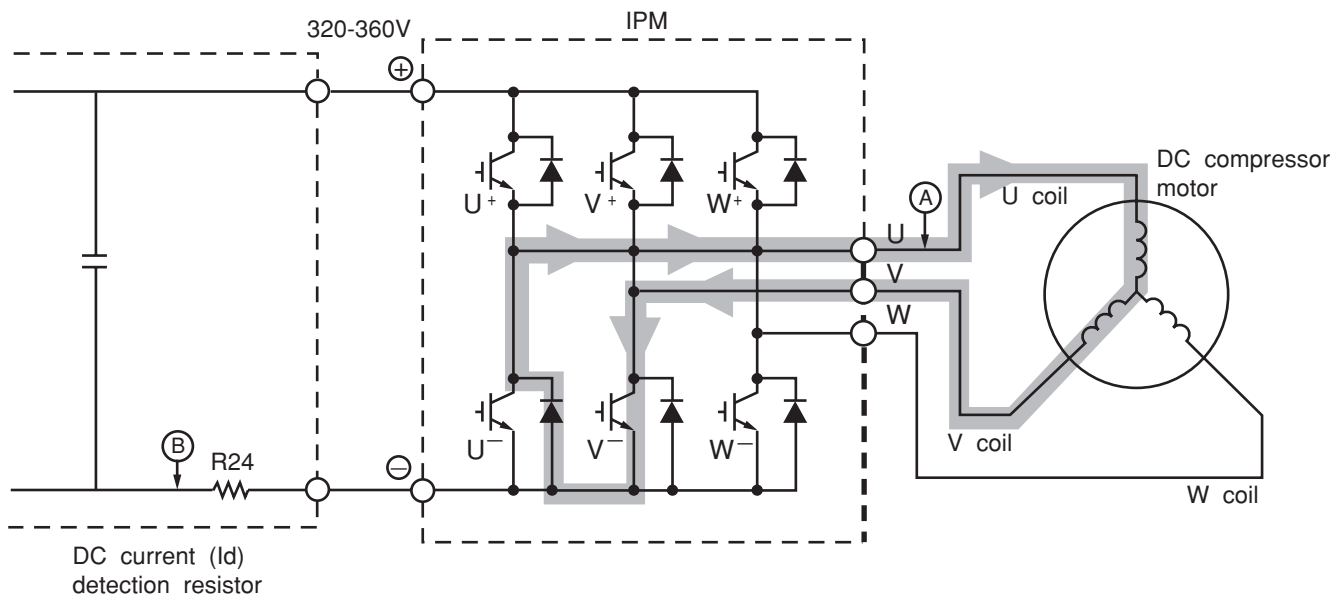

Fig. 4-2 System Power module circuit (U⁺ is OFF, V⁻ is ON)
- Since current flows at point ⓑ only when U⁺ transistor and V⁻ transistor is ON, the current waveform at point ⓑ becomes intermittent waveform as shown in Fig. 4-2. Since current at point ⓑ is approximately proportional to the input current of the air conditioner, input current is controlled by using DC current (Id) detection resistor.